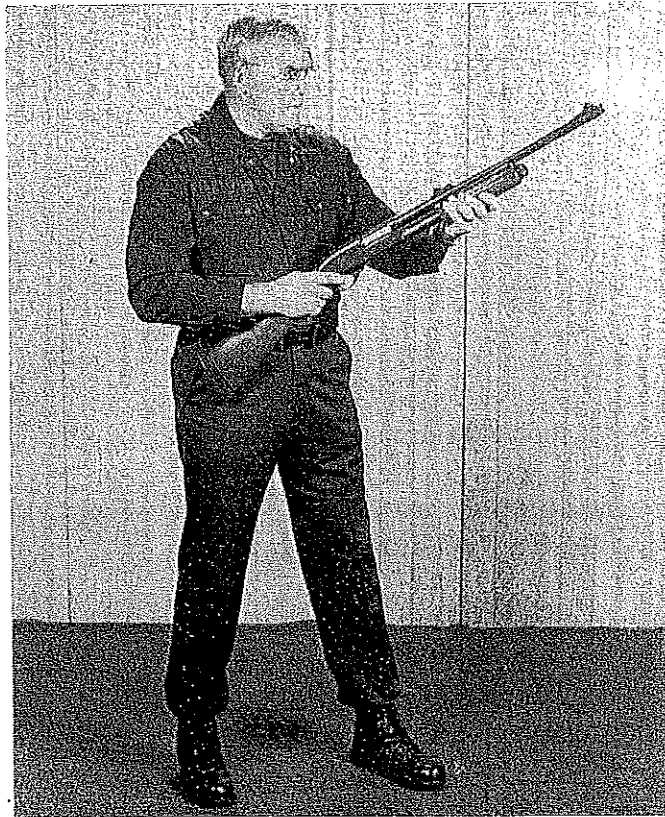

FIGURE 70
1. Feet should be spread approximately 12 to 15 inches apart (width of shoulders) to a line somewhat to the left of the target. About 45 degrees. (Figure 70)